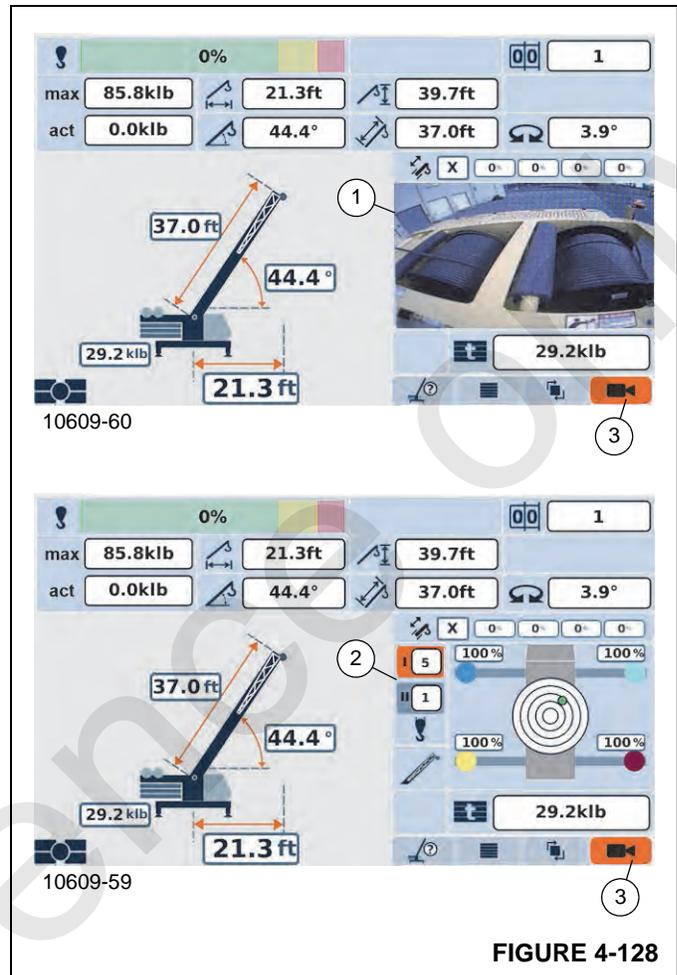

FIGURE 4-128
When enabled, the Hoist Camera View (1, Figure 4-128) will automatically show in place of the Outrigger Position View (2) when the main or optional auxiliary hoist is operating (reeling in or out). When the hoists are not operating, the Outrigger Position View will show on the Monitoring Screen.
Select and confirm the Hoist Camera View Icon (3, Figure 4-128) to enable or disable the hoist camera view.